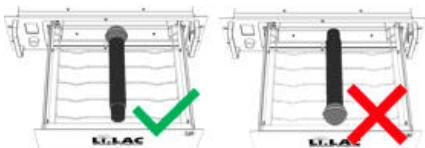

Fig. 3a
3. Place microphones inside drawer with the head of the microphone facing the marking (Fig. 3a and 3b).